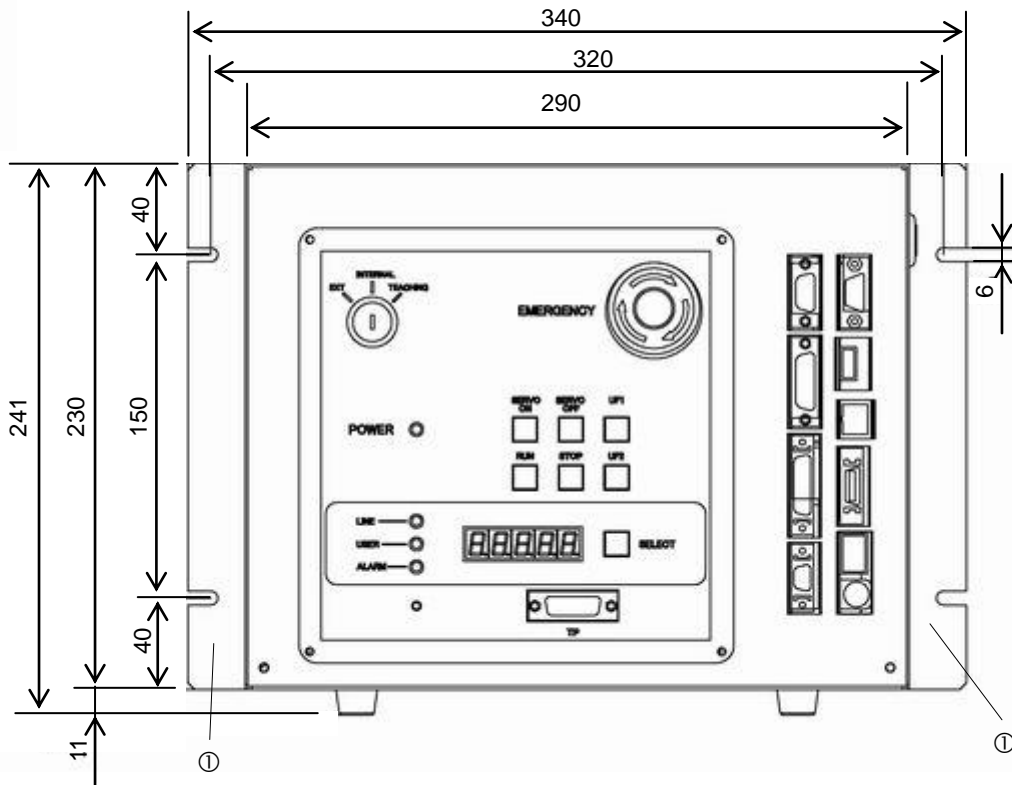

Fig. 12.3 Screw hole dimensions for securing controller (TS3000 and TS3000E)
When mounting the robot controller TS3000 and TS3000E in a rack, mount the side brackets using the screw holes provided on both ends of the front panel, and secure the controller to the rack. The side brackets ① in Fig. 12.3 are optional.